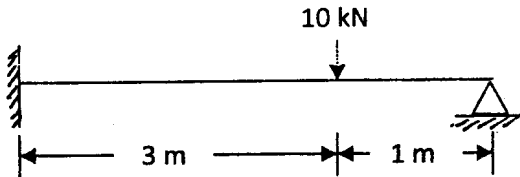

Fig. 1.
2. For the beam shown in fig. 1, find the slope at end B. Assume uniform EI. 3